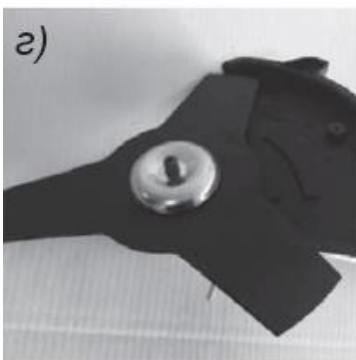

Fig. 4g
5. Install the protective disk (Fig. 4g)